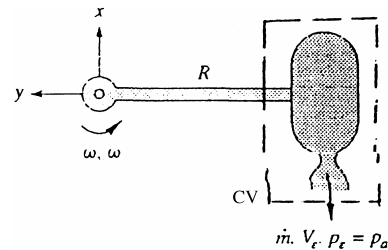

Fig. P3.104
3.104 A rocket is attached to a rigid horizontal rod hinged at the origin as in Fig. P3.104. Its initial mass is M_0 , and its exit properties are \dot{m} and V_e relative to the rocket. Set up the differential equation for rocket motion, and solve for the angular velocity $\omega(t)$ of the rod. Neglect gravity, air drag, and the rod mass.